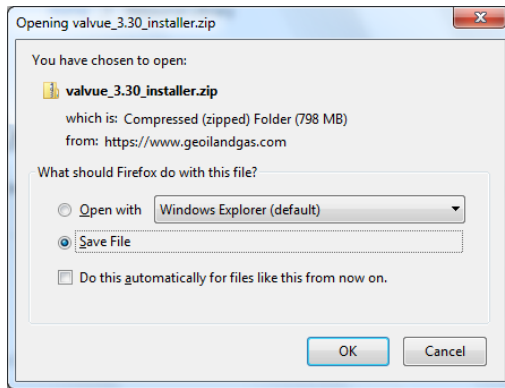

Figure 26 Opening Dialog
2. Click **Download** below *ValVue Installer Download* and Figure 26 appears.